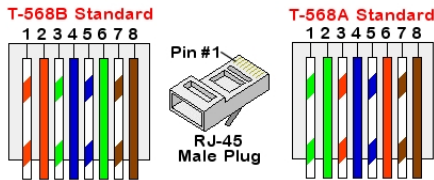

Figure 39: Standard cable wiring
- c. Insert the eight wires into an RJ45 connector, as described in *Figure 39*.
7. For the switch/router side, use a pre-crimped cable or use a crimper to prepare an RJ45 communication connector: Insert the eight wires into the RJ45 connector in the same order as above (Figure 39).